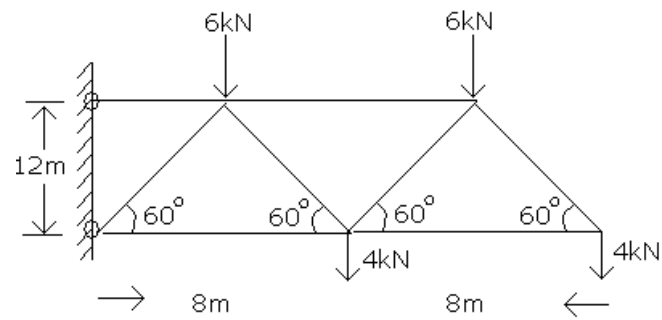

Figure 7
7. Find the forces in all the members of the warrentype Cantilever truss shown in Figure 7 by the method of sections. Tabulate the values. [16]